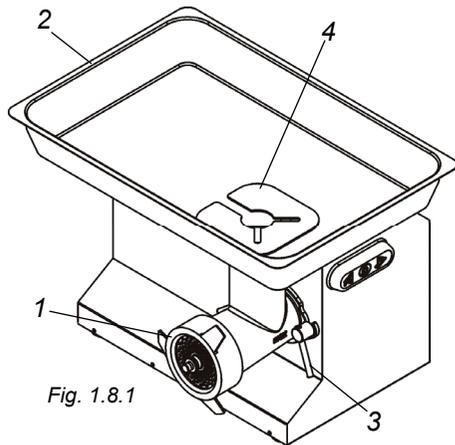

Fig. 1.8.1
The hopper, in the model, shows the guard "2" Fig.1.8.1 rigidly fixed, in accordance with the circular of the Ministry of Labour and Social Insurance No. 66 of 05.09.79.
3. Make sure that it is in the correct position, with the milled rear end of the worm perfectly slotted into the drive pin, then fasten it with the locking nuts (ref. 3 fig. 1.8.1).